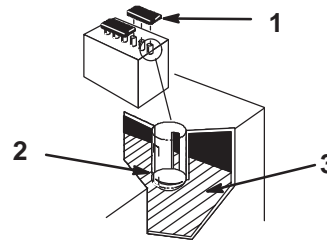

Figure 46
1. Open covers to see into the cells. The electrolyte must be up to the lower part of the tube (Fig. 46).
Important Do not allow the electrolyte to get below the plates. (Fig. 46).
2. Lift off the filler caps (Fig. 46).
3. Slowly pour distilled water into each battery cell until the level is up to the lower part of the tube (Fig. 46).